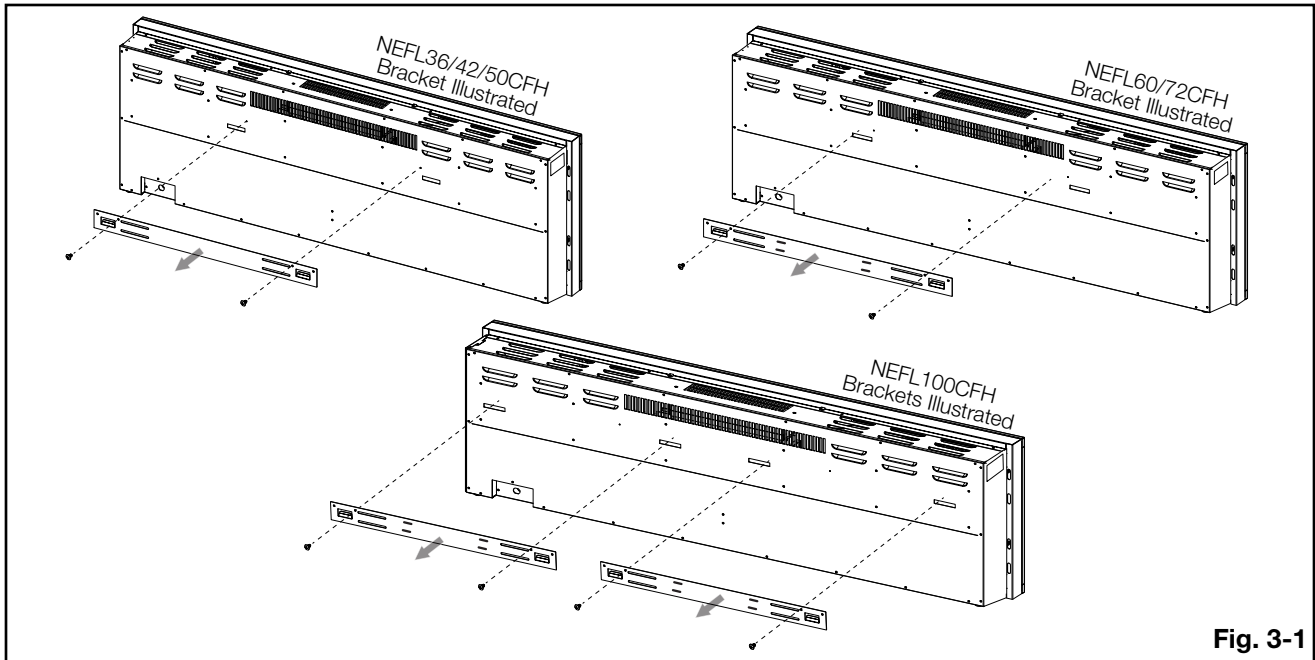

Fig. 3-1
- D. Place the appliance face down on a soft, non-abrasive surface. Remove the bracket from the back of the appliance by removing the screws (**Fig. 3-1**). Set the bracket aside and discard the screws.